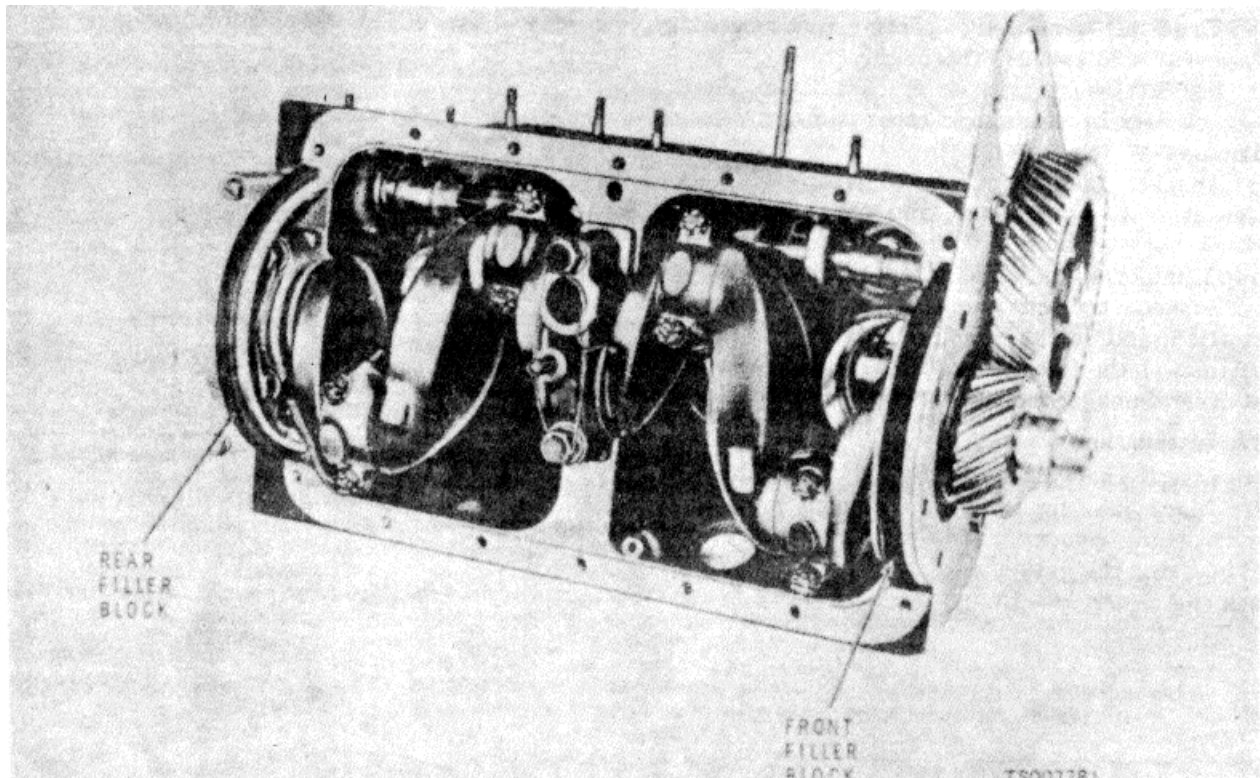

Figure 9-17. Filler Blocks Installed on Engine.
- c. Lubricate the seal with engine oil. Position the assembled filler block, gasket, and seal on the engine block (fig. 9-17); secure with the two screws
e. Install the assembled gasket and filler block on the engine block (fig. 9-17); secure with the two screws (32, fig. 9-26) and lockwashers (33). Tighten the screws to 15 to 20 ft/lbs torque.